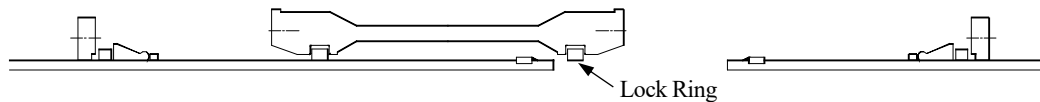

Figure-23 Installation of Lock Ring
- (7) Slide the Collar toward the second pipe slightly, then install the Lock Ring in the Collar socket. (See Figure-23.)